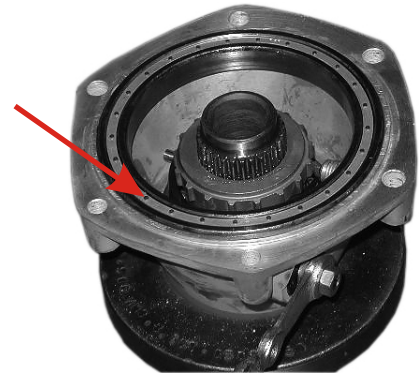

Fig. 82.
- Press bearing 1000822 into the final drive cover using an appropriate mandrel (Fig. 82).